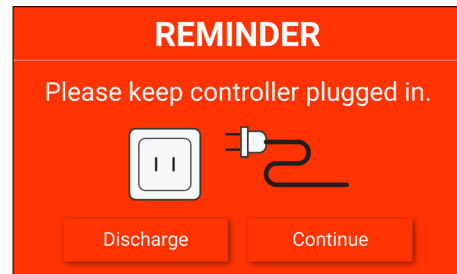

Figure 20. AC power disconnected alert
If the user disconnects the controller from AC power while a patient is enrolled or if therapy is started using battery operation, an alert will notify the user to plug the controller into AC power. (Fig. 20). An audible alert will sound for three (3) minutes every hour while the alert is active. The alert can be dismissed by pressing Continue on the alert screen, plugging the controller into AC power, or by pressing discharge on the alert screen to end use.